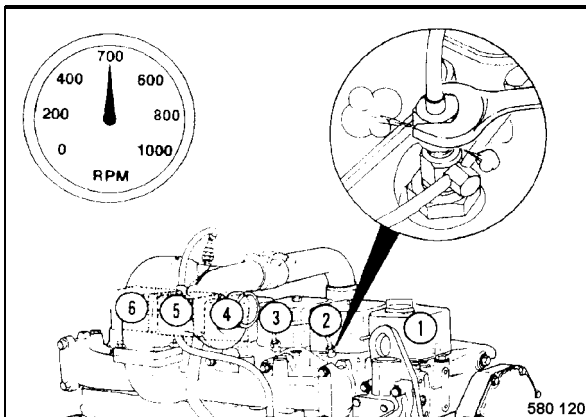

Fig. 143
- Loosen the fuel line slightly on the injection nozzle (Fig. 143).